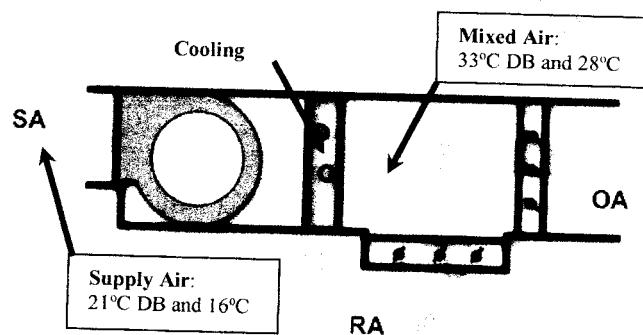

Figure Q2(c) / Rajah S2(c)
QUESTION 2**SOALAN 2****Figure Q2(a) / Rajah Q2(a)**
- (a) **Figure Q2(a)** shows the summary of humid air changes state on the psychrometric chart. List all the moist air changes state on the psychrometric chart in **Figure Q2(a)**.
- (c) The air temperature of dry bulb temperature (DB) and wet bulb temperature (WB) before entering the cooling coil as shown in **Figure Q2(c)** is 33°C DB and 28°C WB. After entering the cooling coil, the temperature change to 21°C DB and 16°C WB. From psychometric chart;